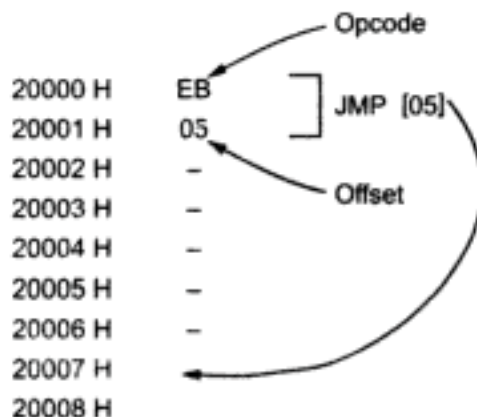

Fig. 3.7
In this addressing mode, the term relative is restricted to instruction pointer (IP). For example, if a JMP instruction skips the next 5 bytes of memory, the address in relation to the instruction pointer is a 5 that adds to the instruction pointer. This generates the address of the next program instruction. This is illustrated in Fig. 3.7.